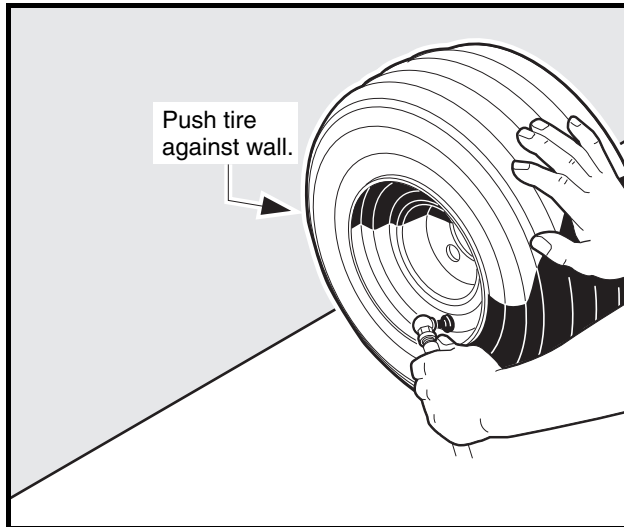

Figure 8-2 Inflate Tire
6. Place the tire and wheel assembly against a wall in an upright position and push it against the wall while inflating the tire to 30-35 psi (2.07-2.42 Bars). The three-point contact (wall, floor, and hand) will help ensure that beads snap into place and form a proper seal as the tire is inflated (**Figure 8-2, Page 8-4**). **See following WARNING.**